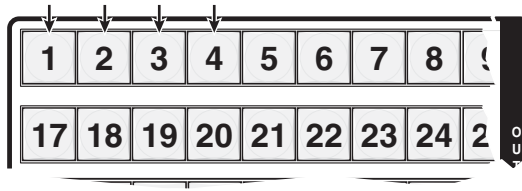

Figure 3-32 — Assign inputs and outputs
- Press and release the input 1 through 4 and output 1 through 4 buttons (figure 3-32).